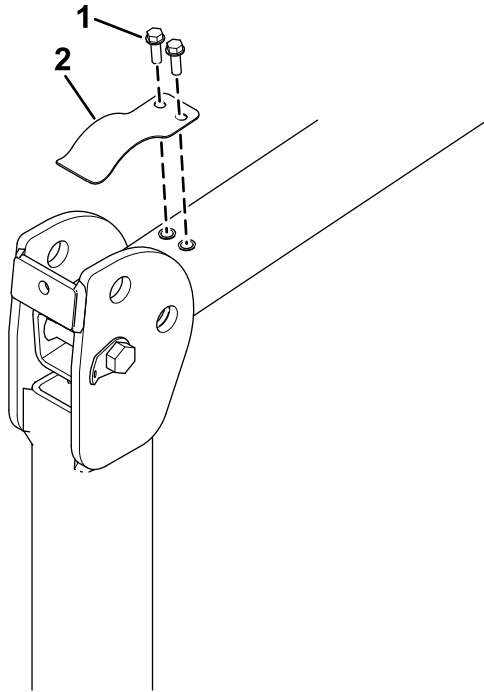

Figure 7
1. With the roll bar in the lowered position, remove the anti-rattle leaf spring (Figure 7) from each side of the roll bar.